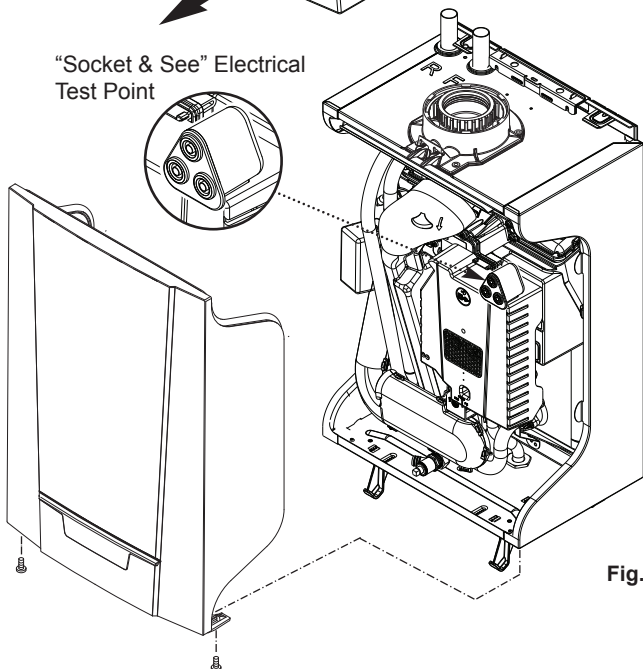

Fig. 38
3. Unscrew the two securing screws on the front panel. Remove the front panel (Fig. 38).